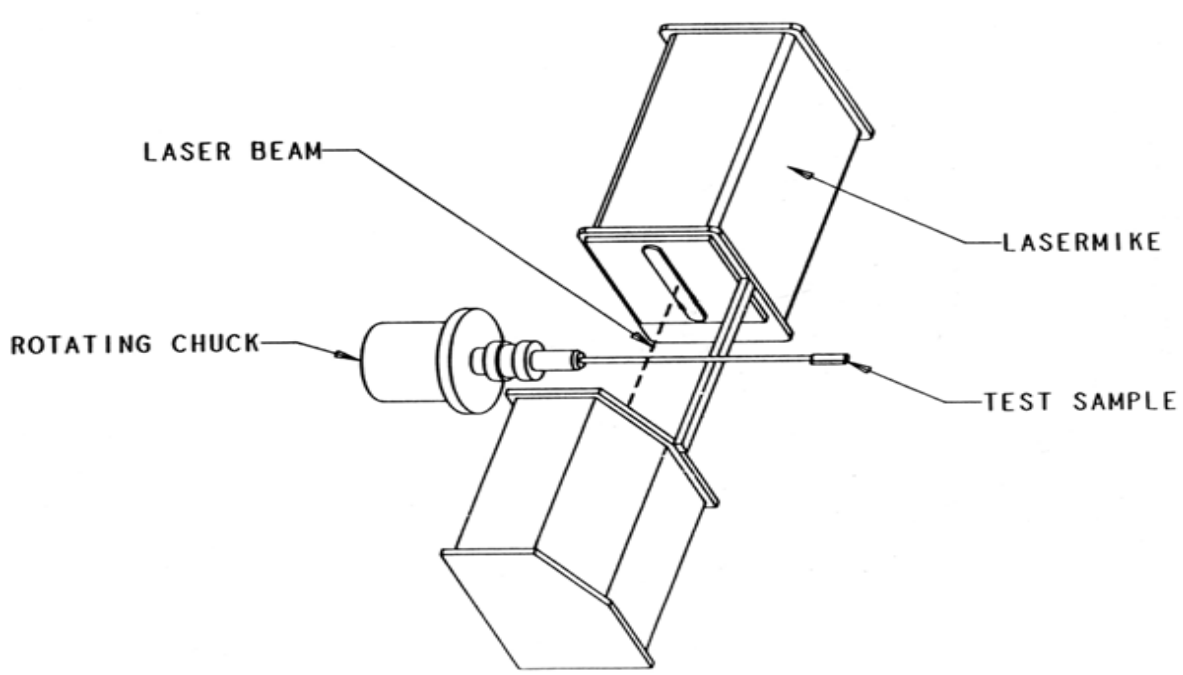

Figure 1 – Test Set-up
5.1 Test Equipment Setup. See Figure 1.